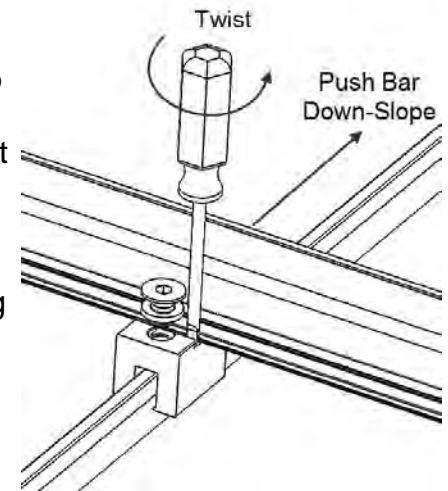

fig. 4b Inserting the Screwdriver
1. Lift slightly or apply down-slope pressure on the free (unfastened) side of the SnowMax bar and insert a small flat head screwdriver as shown in fig. 4b.
2. Raise handle of screwdriver until it is plumb to roof surface. Twist screwdriver to create a lever that will force bar to properly seat in the dovetail (see fig. 4b). Once bar is properly seated and aligned, insert flat head bolt and lock washer and thread into attachment hole. Once bolt has been started, it is easiest to use an impact driver or screw gun with a socket to secure it the rest of the way in.